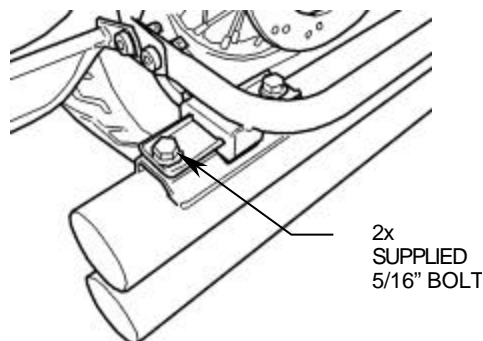

FIGURE 3
12. Slide the muffler assembly onto the headpipes by tapping on the headpipes with your hand as you push the mufflers forward making sure the assembly slides as far forward as possible. Secure the muffler assembly to the stock sliding hanger on the frame using the supplied 5/16-18 bolts but **DO NOT TIGHTEN**, see Figure 3.